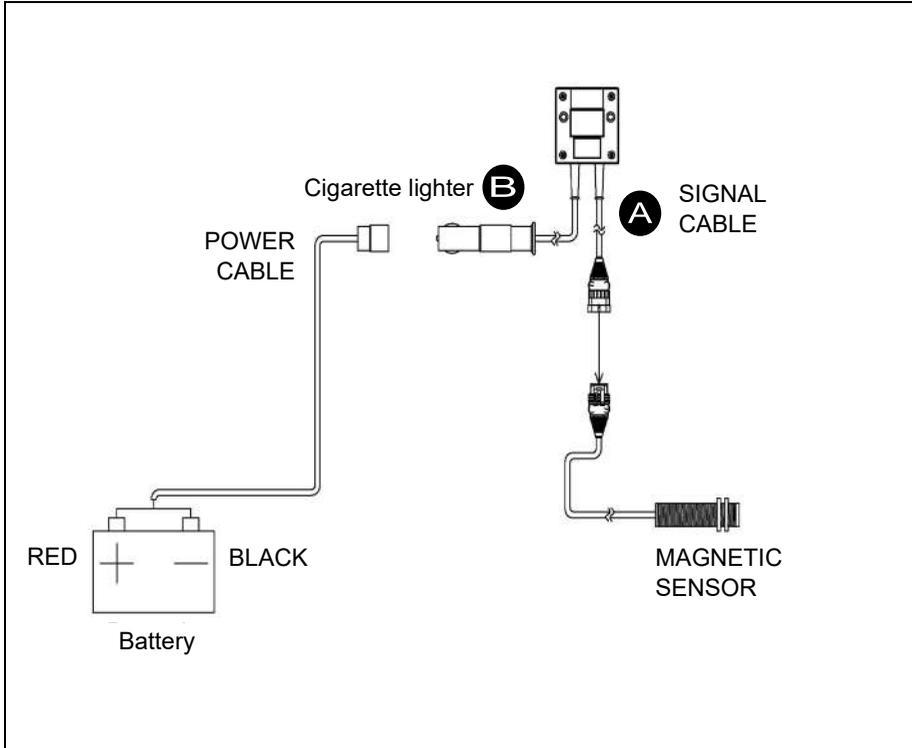

Figure 3. Wiring diagram
- insert the connectors of the sensors available into the respective connectors of the cables, until you hear a “click”: each cable features a label with a letter; in order to make the correct matches follow the table in Figure 3.
- To power the Monitor, simply insert the plug (B) into the corresponding cigarette lighter socket supplied with the vehicle.